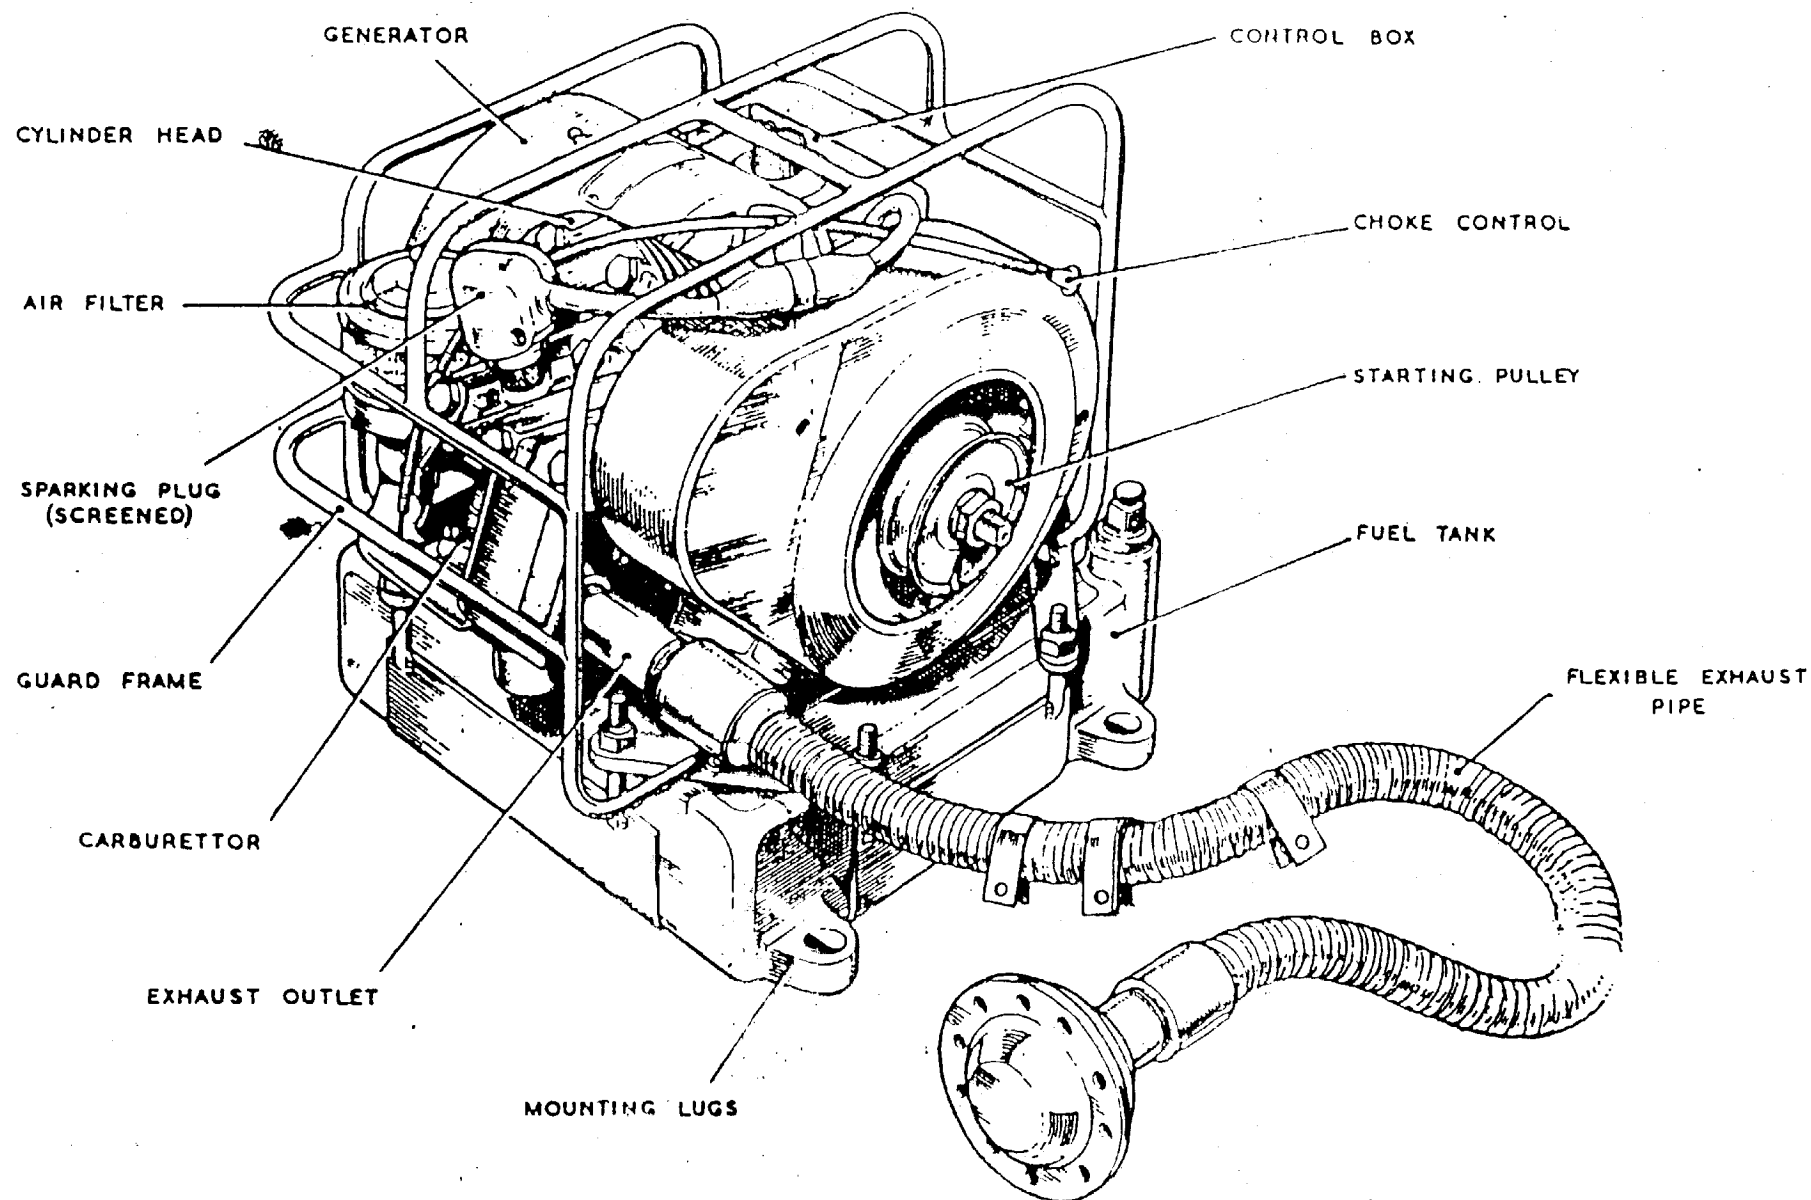

Fig. 1. The B.S.A. 300-watt Charging Set.
1.1. GENERAL DESCRIPTION Fig. 1